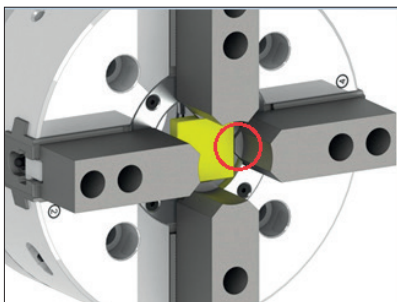

Fig. 3a
2. The skimming disc will be clamped in this skimming base [Fig. 3a / 3b].